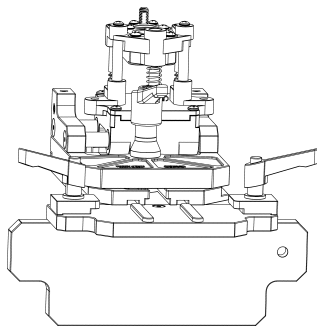

FIG. 2
2. To mount the Pocket Mill Pro to the angle, loosen the two small adjustable knobs (Part #17) on either side of the angle and line up each clamping block (Part #11) on either side of the mounting plate. Slide the Pocket Mill Pro onto the slots on the angle shown in Figure 2. Tighten down the locking handles.